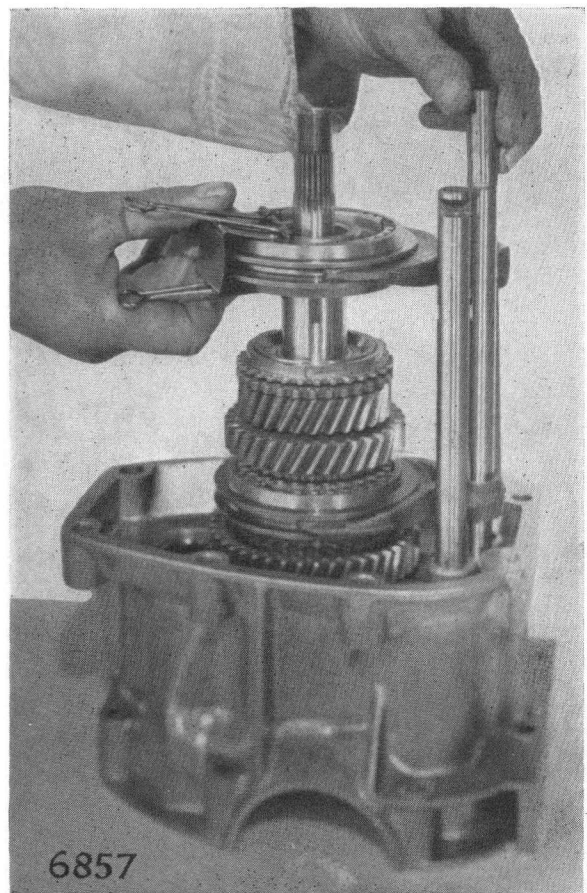

Fig. 18. Remove/refit 3rd/4th synchro hub and selector
Remove 3rd/4th synchro hub assembly (73) after fitting keepers, together with the 3rd/4th selector shaft and fork (77), as shown in Fig. 18.